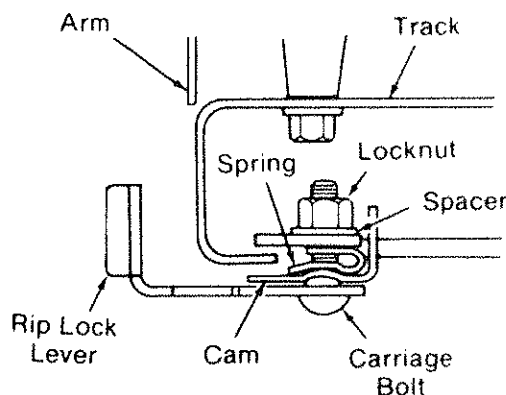

Fig. 130 - Location of Hex Lock Nut
1. Hold the *rip lock* in the unlocked position and with a 7/16 inch wrench tighten the 1/4-20 hex lock nut 1/4 turn. (Figure 130)